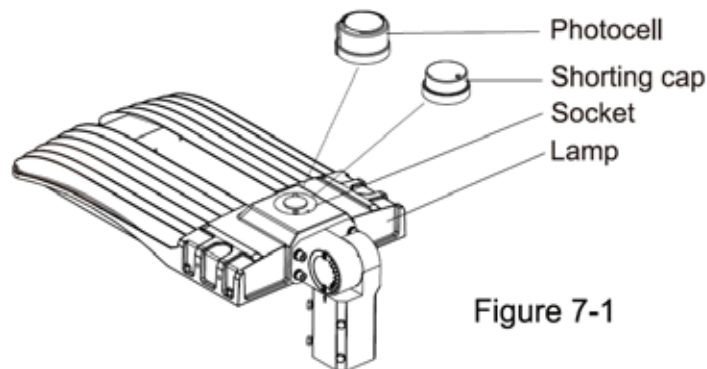

Figure 7-1
**Attention: When the photocell function is required, photocell should be installed on the back of lamp; When it's not required, shorting cap should be installed on the back of lamp (Figure 7-1)**